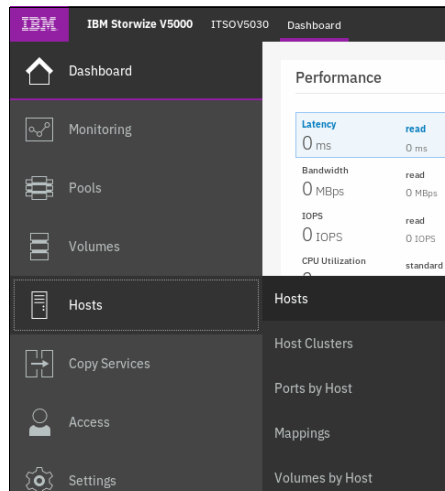

Figure 8-9 Hosts
1. From the main navigation window, click **Hosts**, as shown in Figure 8-9.